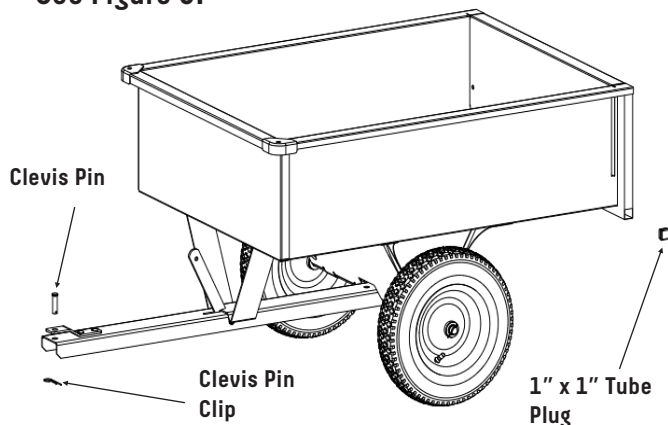

Figure 5
5. Turn Cart to an upright position, then attach Tow Bar to Hitch of tractor by placing Clevis Pin through Clevis Plate Hole and securing with Clevis Pin Clip. Insert 1 x 1" Tube Plug into Tailgate Support Tube. See Figure 5.